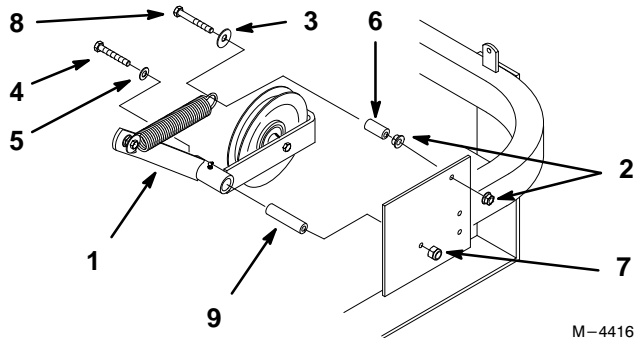

Figure 3
1. Remove the spring from the old idler arm (Old idler arm not shown) (Fig. 3).
2. Remove the old idler arm from the machine frame (Old idler arm not shown) (Fig. 3).
3. Remove the spring from the machine frame. Discard old washer (Fig. 3).
3. Install new idler arm assembly to machine frame. Use existing hardware to attach it (Fig. 3).
4. Install spring to machine frame. Use existing hardware and new flat washer included in kit. (Fig. 3).
Note: New flat washer must be installed between spring and head of bolt. The spring must be installed between new flat washer and spacer (Fig. 3).